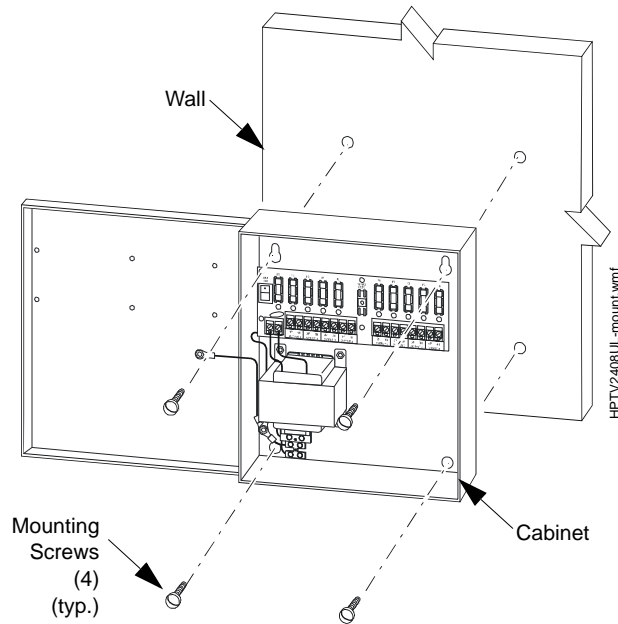

Figure 1
2. Secure HPTV2408UL enclosure to the desired location (indoor installation only) as shown in Figure 1.